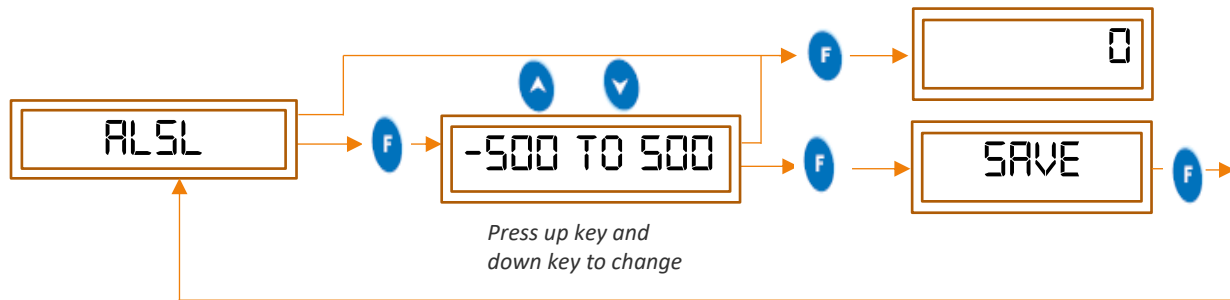

Figure 15 ALSL (Alarm set point low)
- To set the Alarm set point high, follow the procedure shown in figure 15, by pressing the appropriate buttons given in the front panel of the Device.